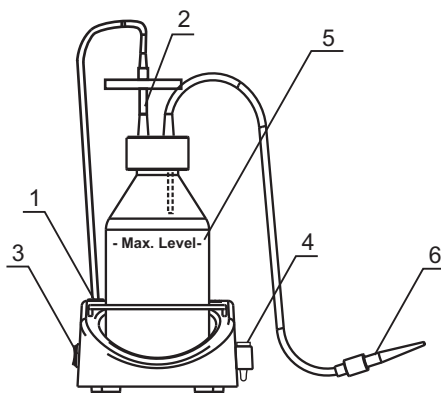
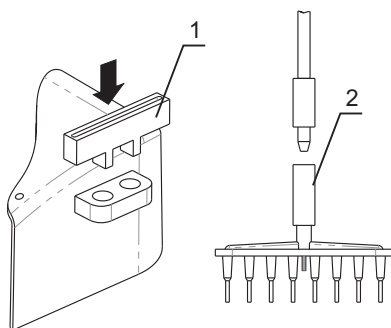

Fig.1 Assembled unit
Fig.2 Optional MA-8 aspiration tip installation
- Do not allow the collected buffer level to exceed the max. level (see Figure 1/5). Empty the trap flask when the liquid level reaches maximum. Take necessary precautions utilizing waste liquid in accordance with general laboratory standards.
- screw the outlet pipe to the socket connector of the pump (Fig.1/1) located on top of the unit (turning clockwise);
- ensure that the filter is tightly inserted in the socket (Fig.1/2);
- place the tube into a holder (fig.1/4) situated at FTA-1 right hand side.
- remove tubes from the holder situated at FTA-1 right hand side (fig.1/4);
- place MA-8 storing holder (fig.1/1) into the holder (fig.2/↓);
- remove standard aspiration tip from the inlet pipe (fig.1/6) and connect the MA-8 aspiration tip (fig.2/2);
- 4.2. Switch ON the unit using the **Power** switch on the side surface (fig. 1/3).
- 4.4. Use the mini-holder (Fig. 1/4) situated at the right side of the unit for washing and storing the aspiration tip. Two tubes can be placed in the holder (e.g. for hydrochloric acid solution and distillate).
During operation do not allow the collected buffer level to exceed the max. level (see Figure 1/5). Empty the tarp flask when the liquid level reaches maximum (according to p. 4.6).
- 4.5. After finishing the operation switch OFF the **Power** switch (fig. 1/3) and disconnect the external power supply unit from electric circuit.